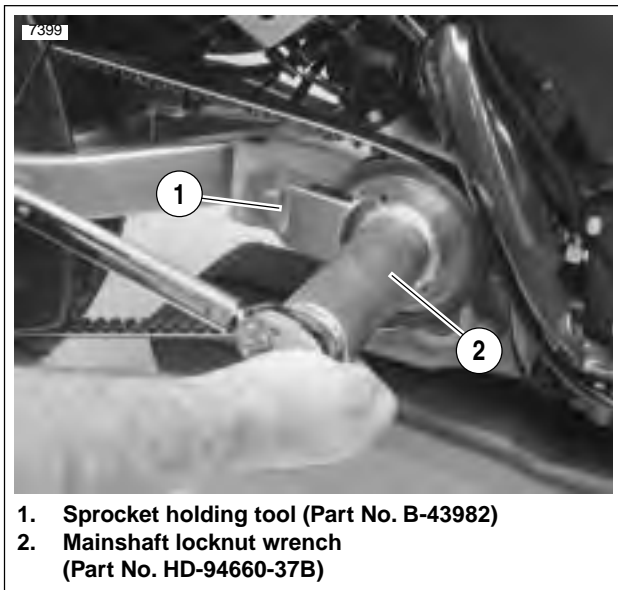

Figure 6-57. Transmission Sprocket Tightening
6. See Figure 6-57. Use MAINSHAFT LOCKNUT WRENCH (Part No. HD-94660-37B) and a torque wrench to tighten sprocket nut to 50 ft-lbs (68 Nm) INITIAL torque, ONLY.